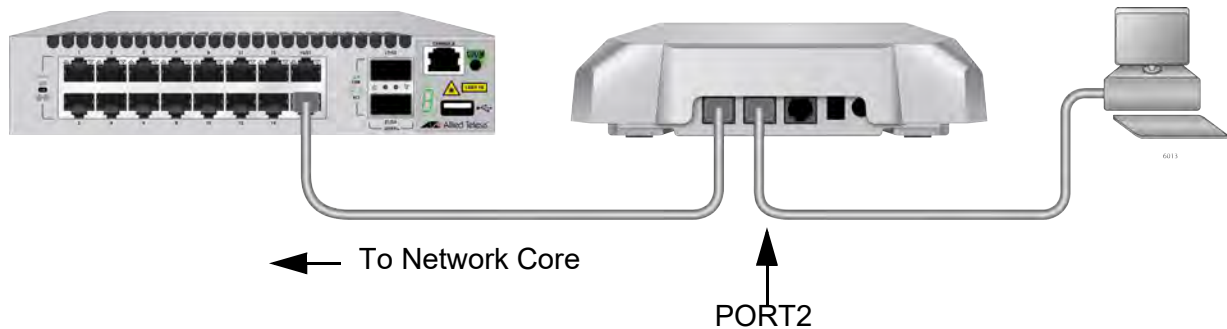

Figure 7. PORT2 in Cascade Mode with an End Node
**Cascade Mode** The PORT2 also has a Cascade mode. The mode allows you to use the port to connect another device to your network. The device can be an end node such as a printer or computer, as shown in Figure 7.